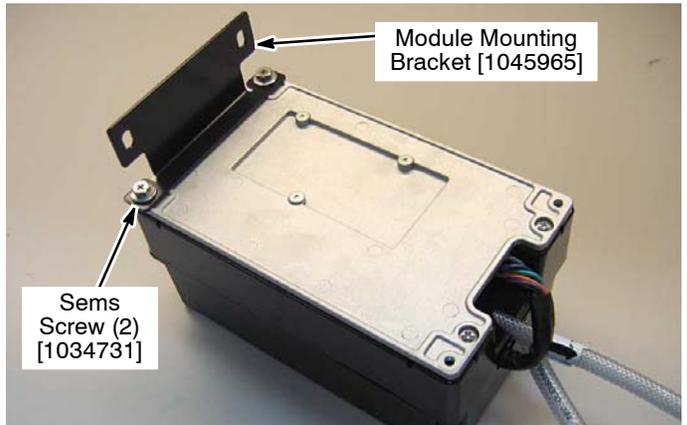

**Fig. 33**
- Connect wires 8/8A Gray, 6/16 Blue and 30 Tan to the ec-H2O on/off Switch as shown (Figure 33).